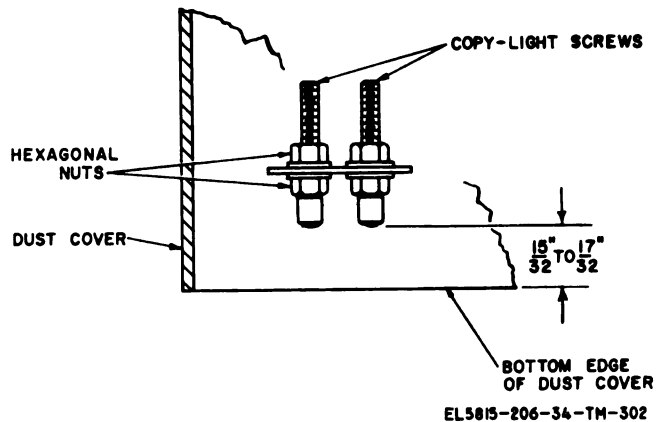

Figure 3-230. Copy-light screws adjustment.
**3-267. Copy-Light Screws Adjustment (fig. 3-230)**